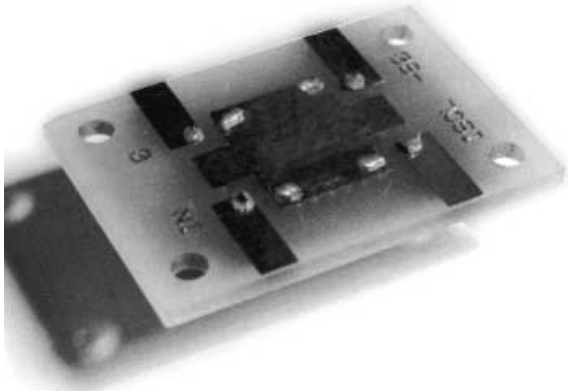

Figure 4 - Manual Solder Paste Deposit on Test Circuit
**Solder Paste:** All conventional solder paste formulations including water soluble and "no-clean" fluxes will work well with the Anaren Xinger and RF Power surface mount components. Solder paste can be applied with stencils, mesh screens, or syringe dispensers. An example of a manually placed solder paste deposit is shown in Figure 4.